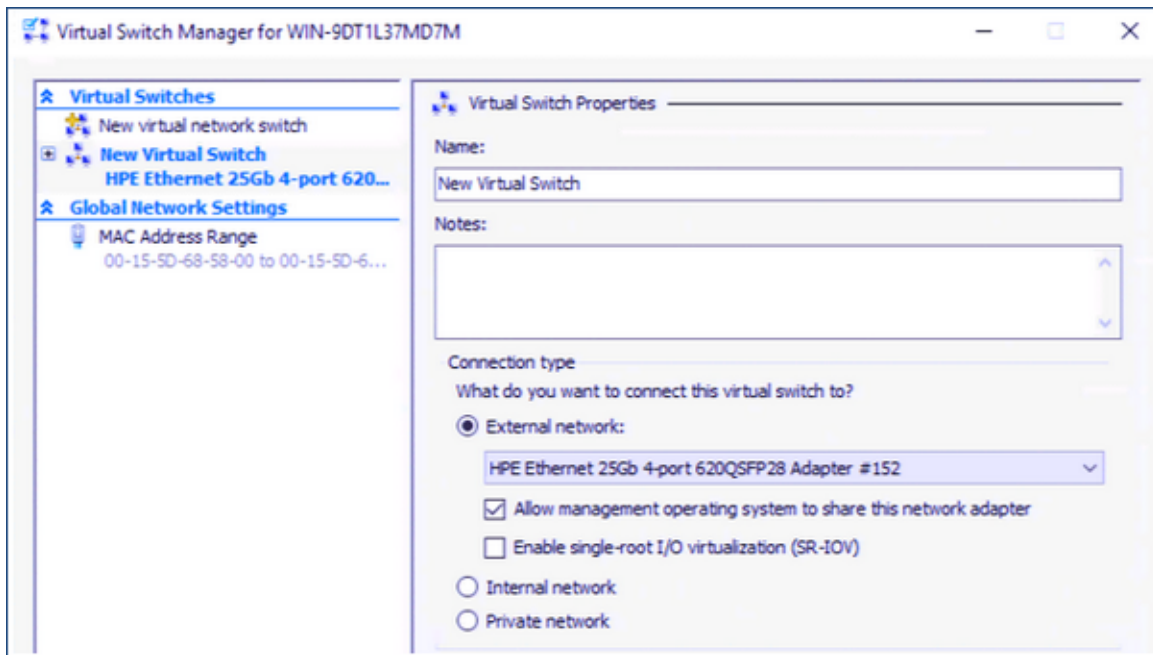

Figure 9-1. Enabling RDMA in Host Virtual NIC
2. Click **Virtual Switch Manager** (see Figure 9-1).